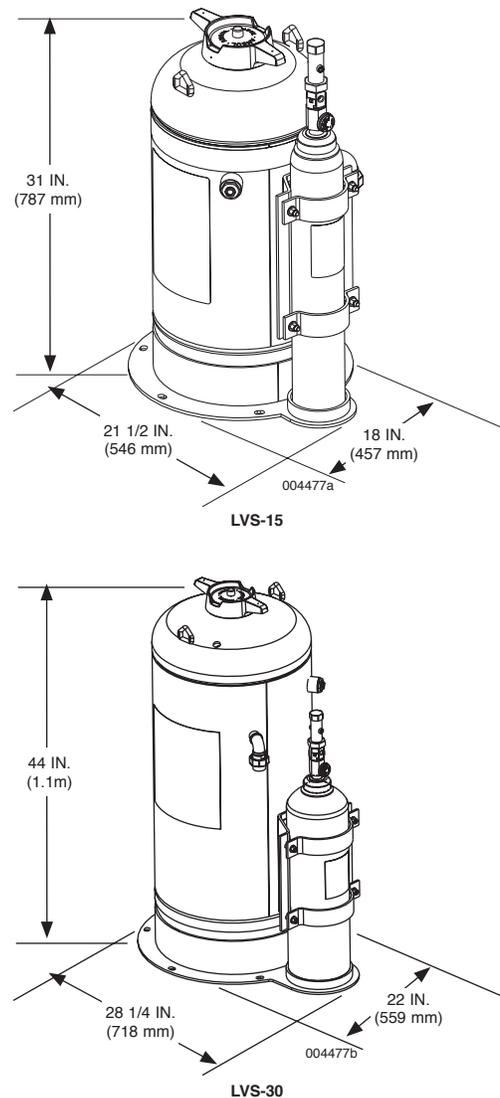

FIGURE 5-4
- ▶ 2. Position LVS-15 or LVS-30 tank and mounting ring on a rigid surface capable of supporting weight of full tank assembly, making sure there is no interference with any vehicle components, service access panels or doors, or operator egress. Verify tank can be easily filled and serviced from that position. See Figure 5-4.